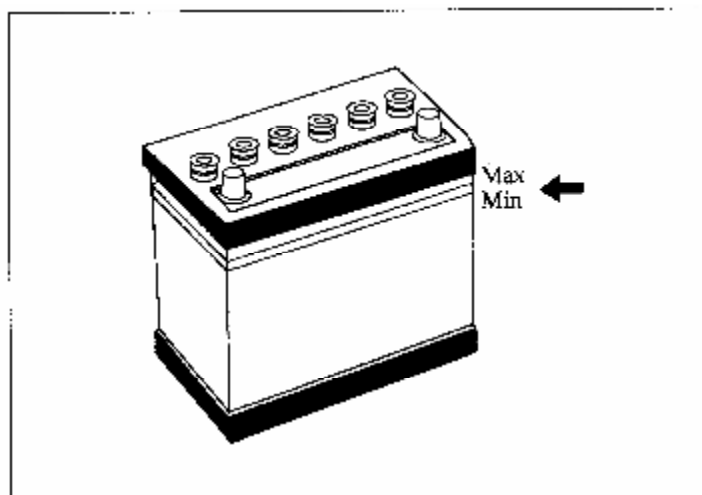

Figure 5-1 Check battery fluid level
(1) Clear dust and acid splashes on battery cover and clear vent hole. Battery hardly needs any maintenance under normal working condition. Regularly check fluid level (see fig5-1) under high temperature. Right fluid level should be between MIN/MAX lines on battery side. Add distilled water when fluid level is low.